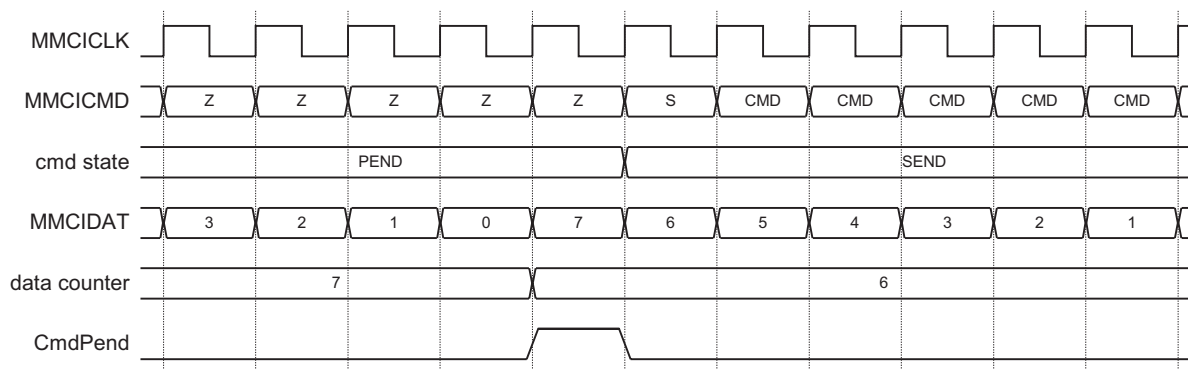

Figure 2-9 Pending command start
- To start transferring a pending command (see Figure 2-9). This is used to send the stop command for a stream data transfer.